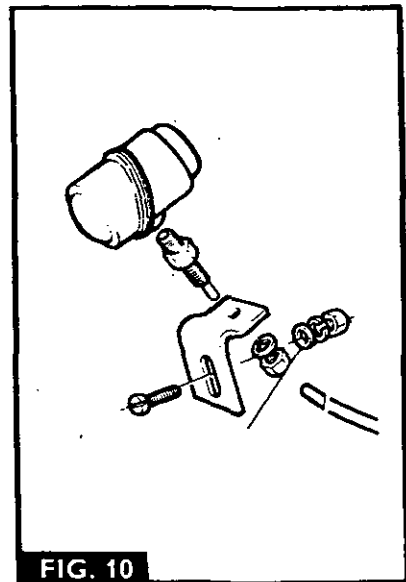

FIG. 10
2. Fig. 10. Disconnect the tube, from the air cleaner to the indicator, at the indicator adapter.